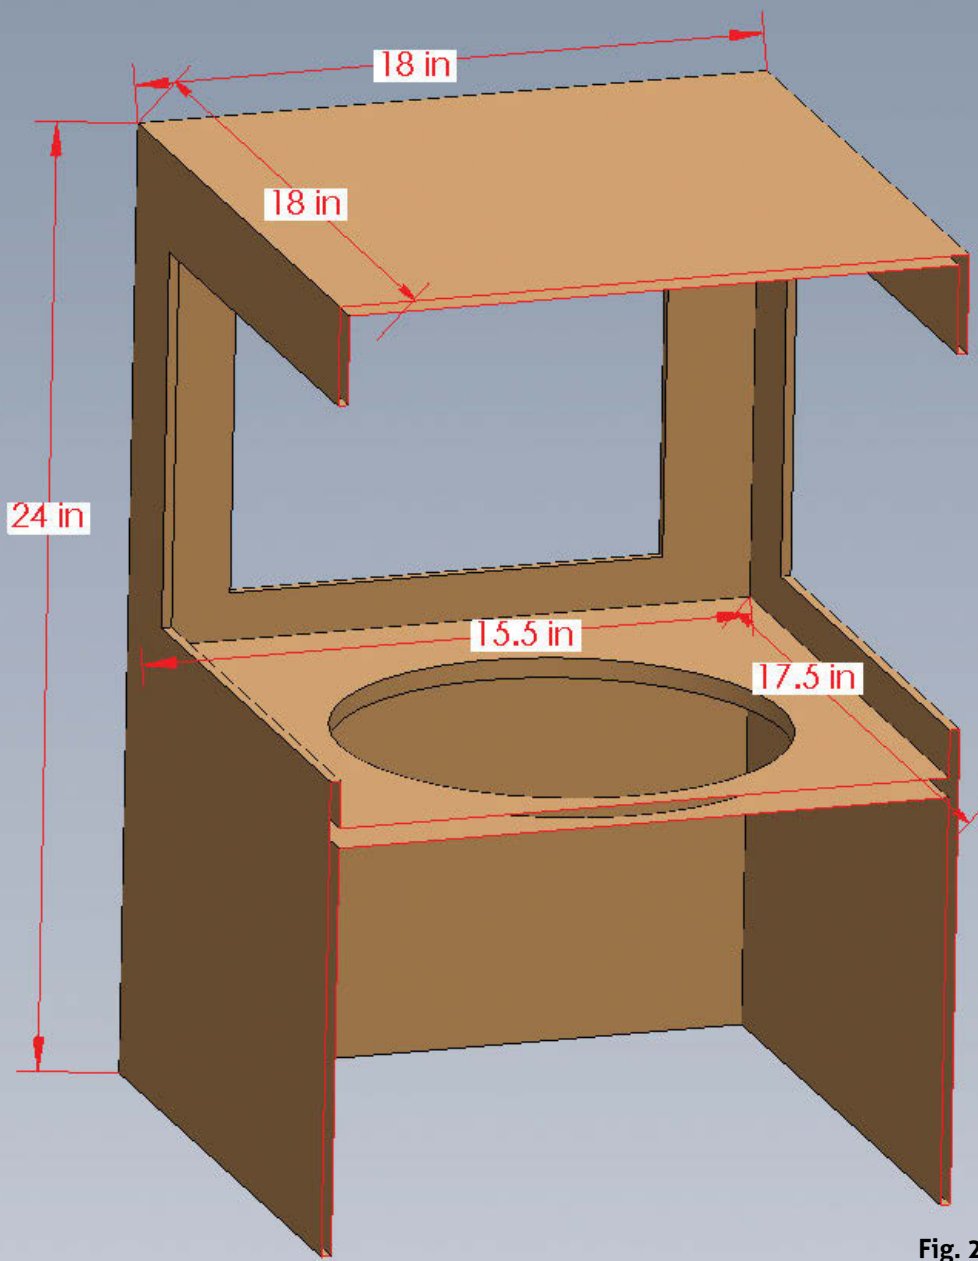
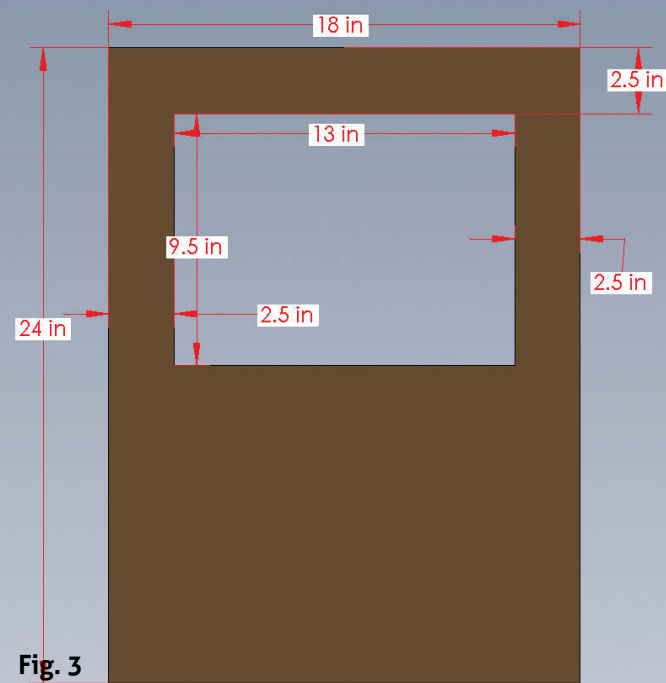

Fig. 2
Fig. 3
Before you start cutting any wood, study the following three drawings to get a visual sense of where we're headed. **Fig. 2** shows the cabinet dimensions, and **Fig. 3** shows the measurement for the four window cutouts. **Fig. 4** shows the speaker mount and its cutout; I'll explain how I arrived at the speaker cutout measurements in a moment—its precise diameter depends on the speaker you've selected for this project.
Step 3. Now we need to cut matching windows into the front, sides, and removable rear panel. Use your table saw or jigsaw, and make sure to follow the measurements shown in **Fig. 3**.